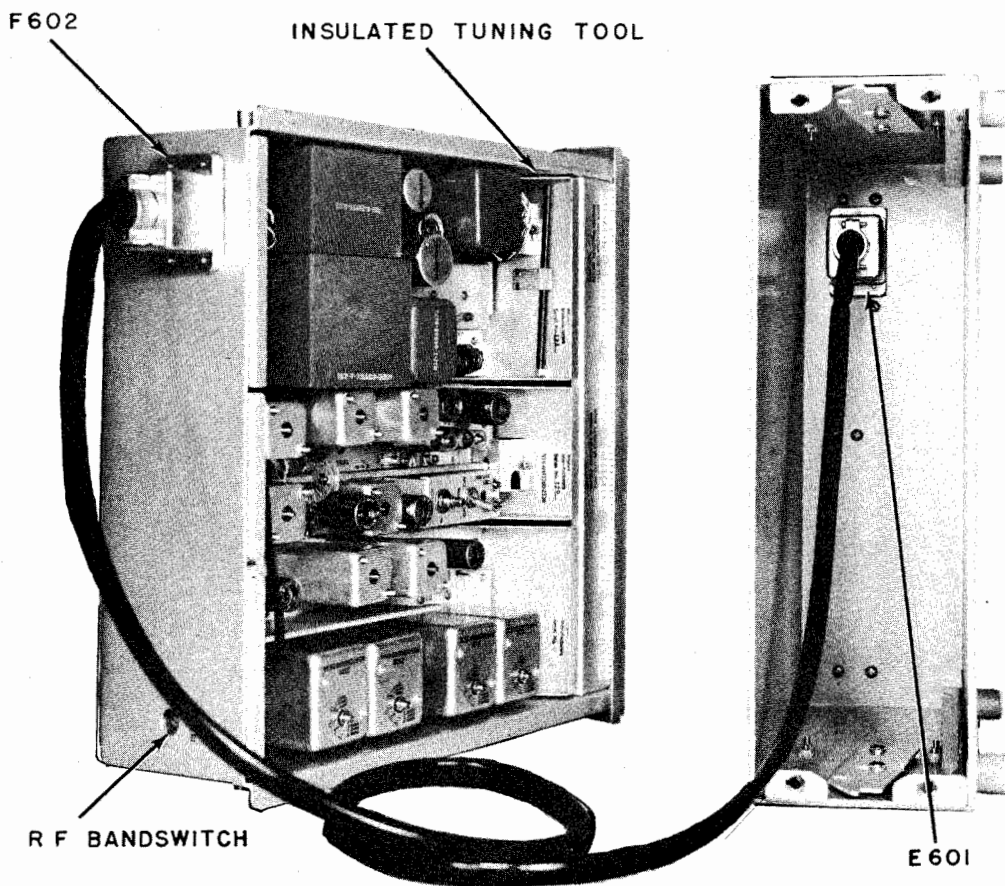

Figure 7-1. Receiver and Case, Connected by W601 Cable
(3) Connect test cable W601 between the receiver chassis receptacle (J302), and the rear panel case receptacle J504. (See Fig. 7-1.)